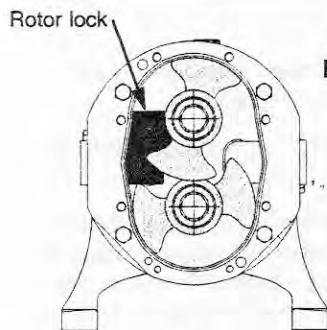

Fig. 2
1. Refit the can support (35) over the shaft (31). Tighten the screws to the specified torque. See section 6.1.
2. Refit the can (37) over the bolts and tighten the screws (33) to the specified torque. The screws closest to centre should be tightened first. See section 6.1. Do not forget to re-fit the five O-rings (28,34) to the can support (35).
- 2a. Refit Drain plug (41).
3. Fill the gearbox with oil to the specified level according to fig.2. Check for leaks.